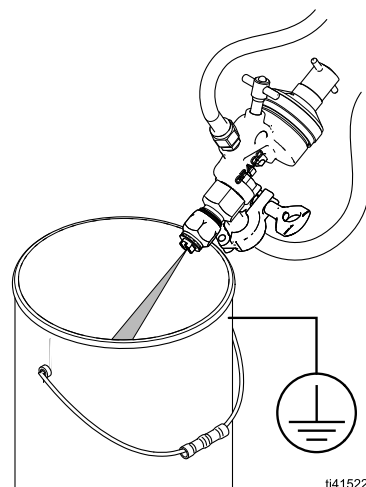

FIG. 7
5. Hold a metal part of the gun firmly to a grounded metal pail. Actuate the gun until clean solvent dispenses. See FIG. 7.